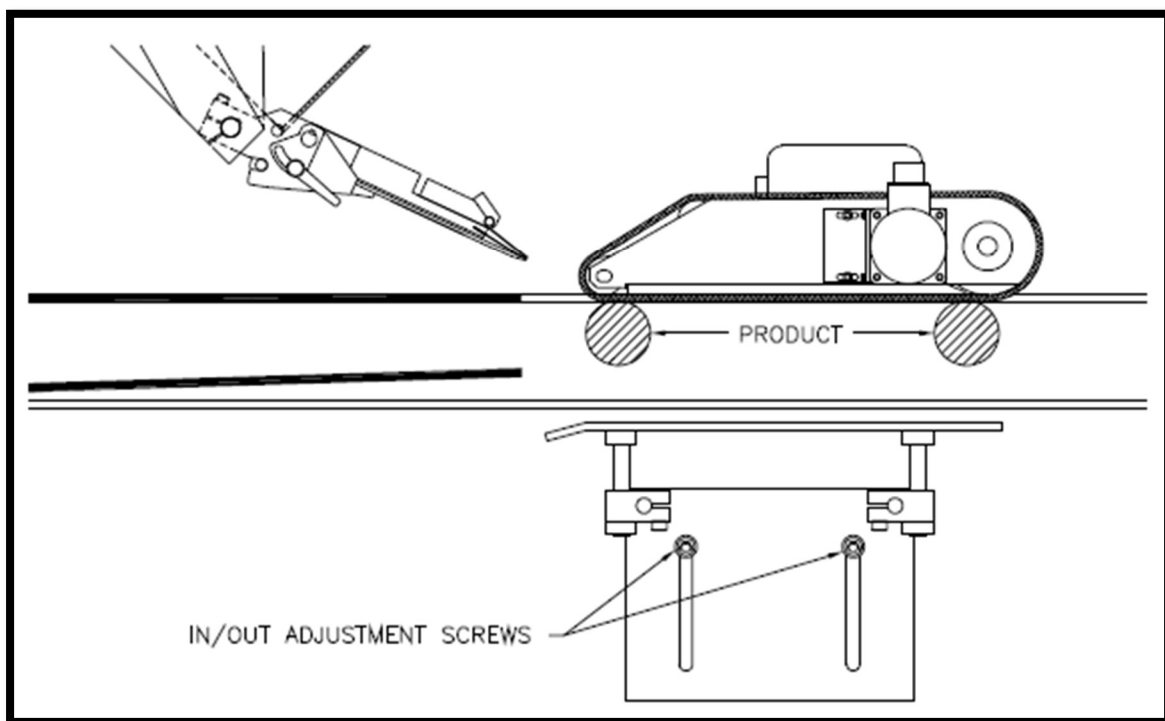

Figure 30 Pressure Bar In/Out Position
1. If necessary, loosen the mounting screws to position the pressure bar as shown in Figure 30. Do not fully tighten the screws at this time.
(Refer to Figure 30).
3. Place a product at each end of the wrap belt. Refer to Figure 30.